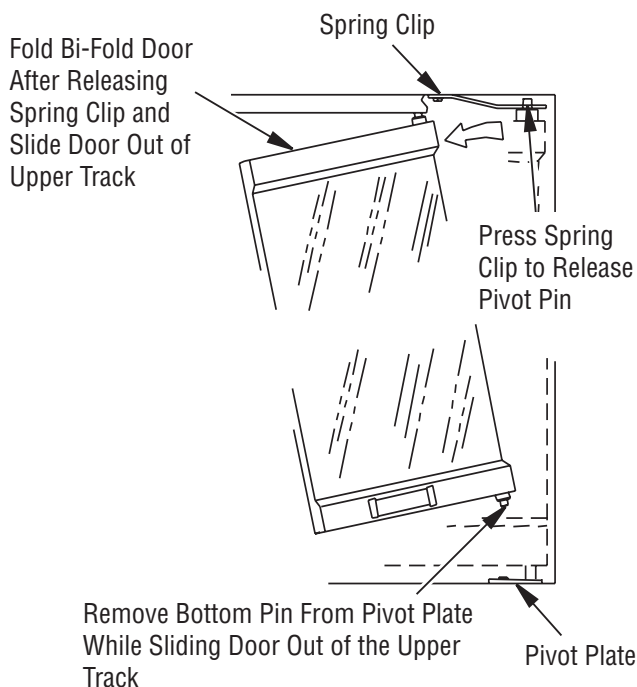

Figure 34 - Removing Glass Doors
2. Fully fold frame assembly and slide upper edge towards center of firebox opening until guide pins are free of frame rail (see Figure 34).